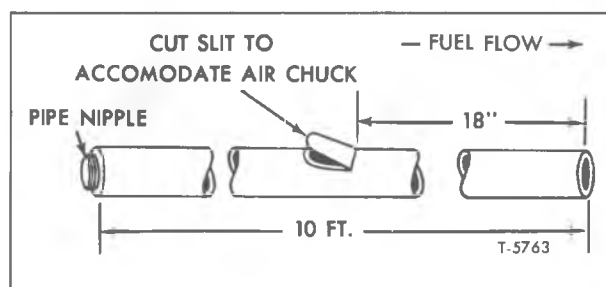

Figure 3—Tank Siphon Construction
1. Obtain an 8 to 10 foot length of 3/8", or slightly less, I.D. hose and cut a flap type slit 18" from one end (refer to fig. 3).